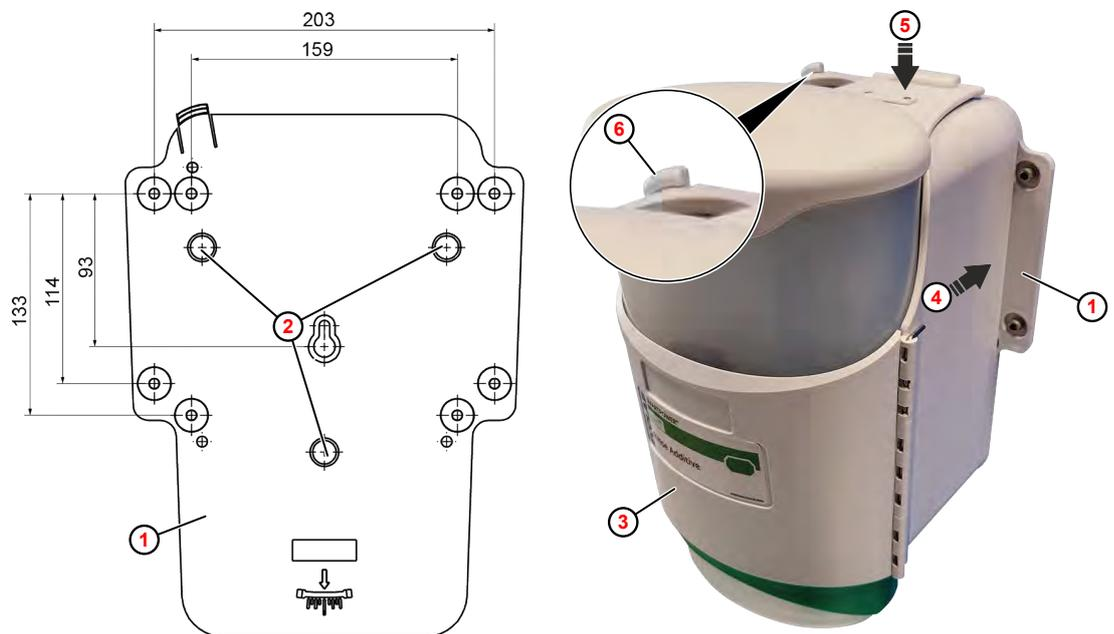

Fig. 3: Mounting the unit (with the rinse dispenser as an example)
- 1.** ➤ Select the final location of the SMARTPOWER™ Rinse Dispenser and drill holes in accordance with the Fig. 3 .